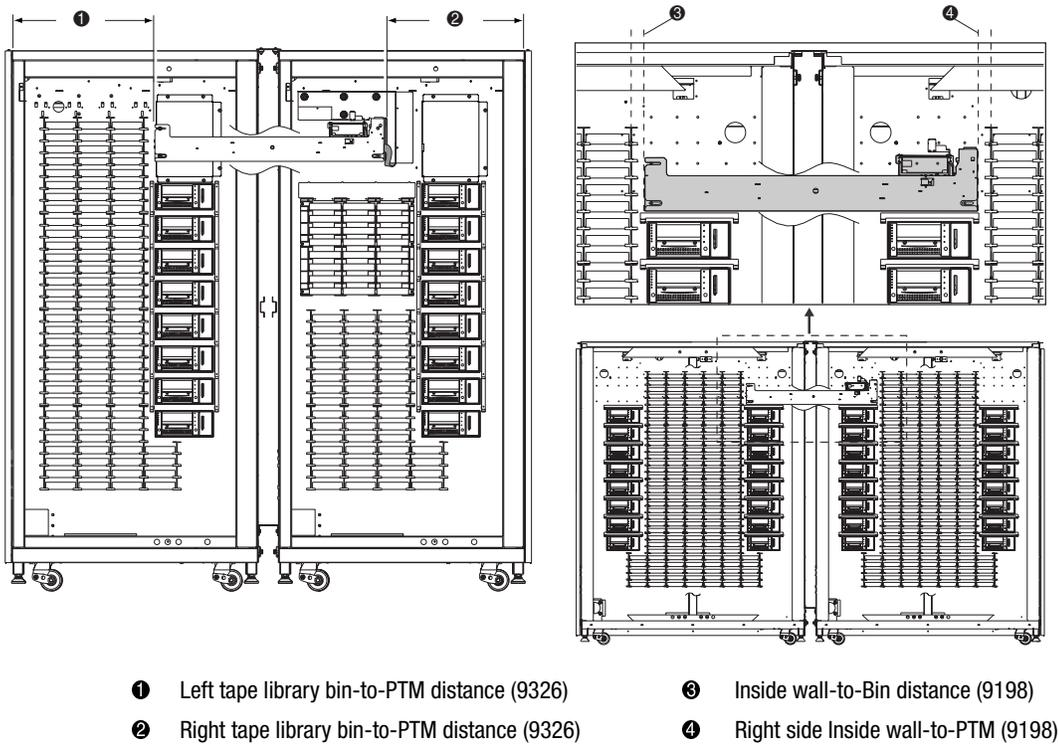

Figure 2-12. Centering the PTM
15. Center the PTM (see Figure 2-12):